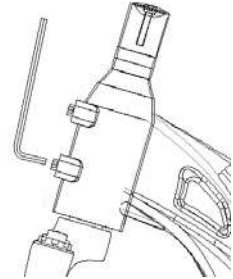

Figure 5.
1. Remove the 4 bolts on the head tube with the 5 mm Allen key, as shown in Figure 5.